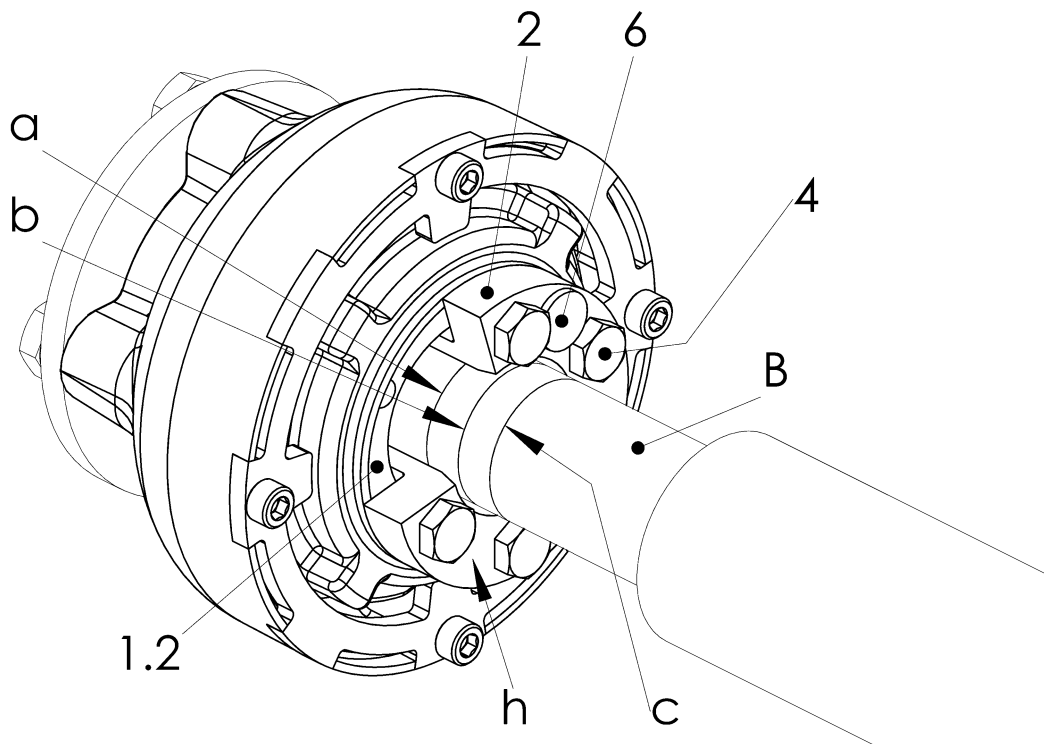

Fig. 6-10 Position of the propeller shaft in the hub (2)
9.2 Dismantling the propeller shaft**See Fig. 6-10 and 6-9:**
- Loosen the screws (4) and unscrew them evenly approximately 10 mm.
- Remove the plugs (6) from the forcing threads.
- Unscrew one screw (4) for each forcing thread and screw it loosely into a forcing thread.
- Push the hub (2) out of the hub (1.2) using the screws (4) in the forcing threads.
- Pull the propeller shaft (B) out of the hub (2).